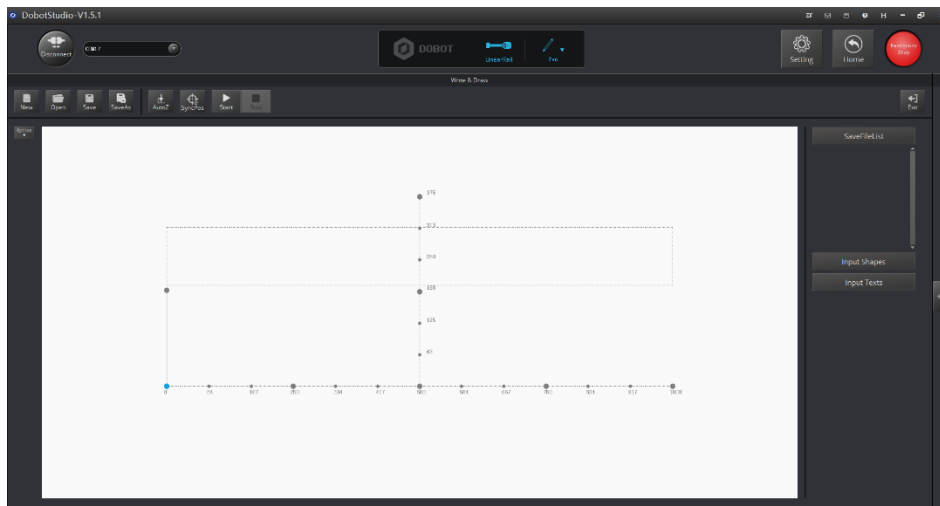

Figure 1.14 LinearRail operation panel
**Step 4** Click **Write&Draw** to enter the **Write&Draw** page. As shown in Figure 1.14.